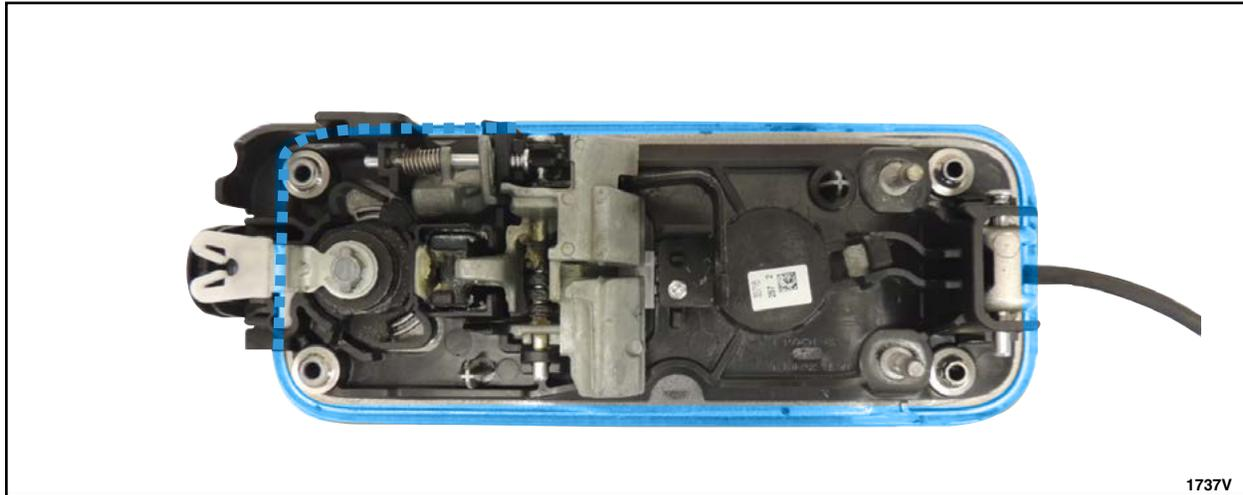

FIGURE 44
15. Using a clean shop towel and isopropyl alcohol, clean the highlighted mating surface area of the exterior front door handle. See Figure 44.